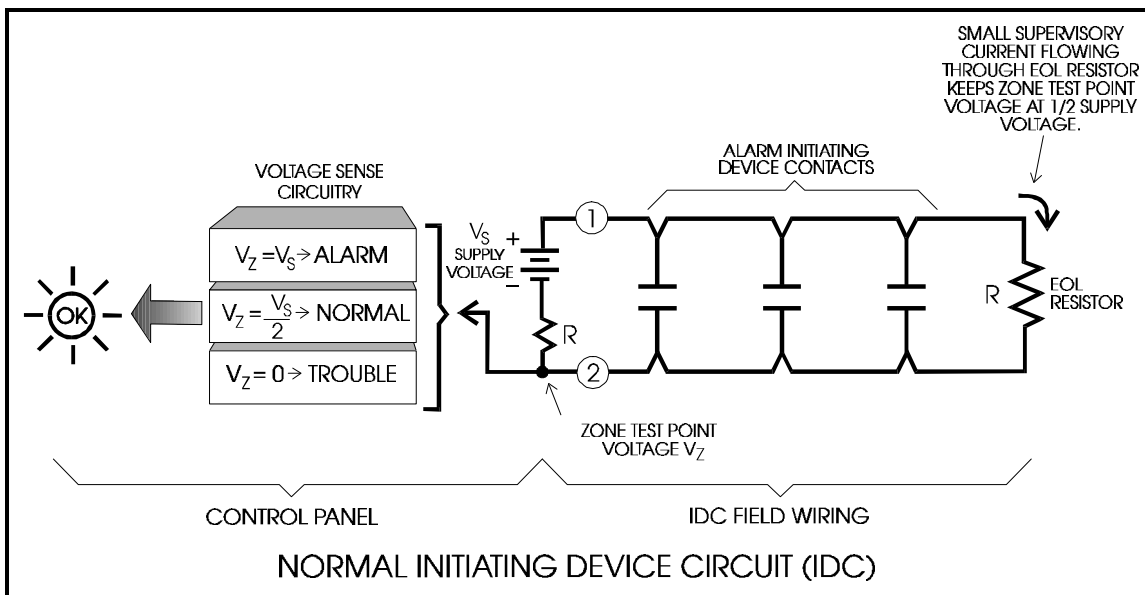

Figure 1
Figure 1 shows a simplified fire alarm panel supervising a single Initiating Device Circuit or zone using Direct Current (DC) continuity supervision. The supervisory current from the battery flows through terminal #1, the field wiring, the EOL resistor, terminal #2 of the control panel through a second resistor, and returns to the battery. The internal resistor and EOL resistor have equal resistance values. The voltage at the zone test point  $V_z$  is